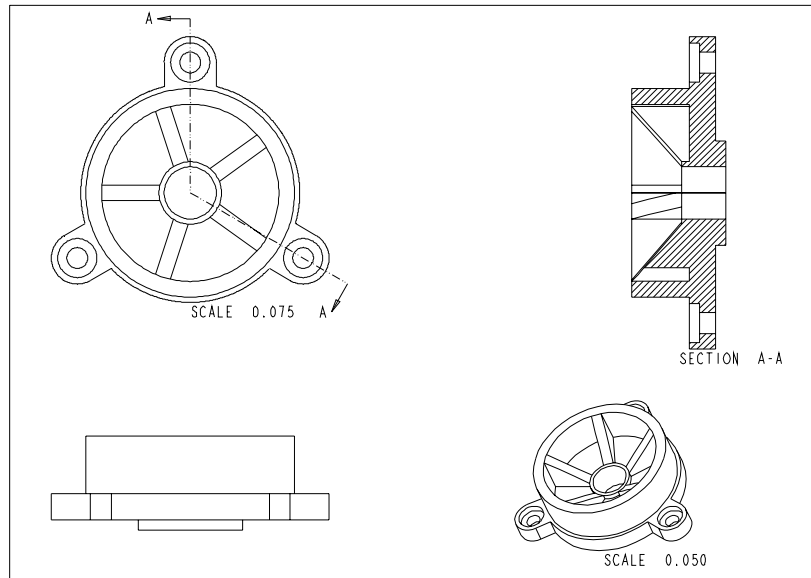

Figure 12-47 Different drawing views
- Generate the default 3D view of the model, see Figure 12-47.
4. The spacing between the hatching lines has to be reduced. Choose the **Half** option twice and then choose **Done** in the **MOD XHATCH** menu. Now, the hatching appears to be more dense, as shown in Figure 12-47.
2. Specify the center point for the placement of the general view below the section view, as shown in Figure 12-47; the **Drawing View** dialog box is displayed.
2. Select the center point for the detail on one of the ribs in the trimetric view, refer to Figure 12-47.